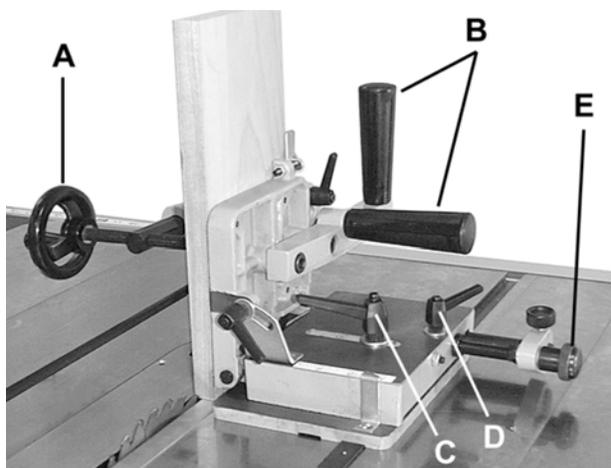

Figure 8
1. Use the handwheel (A) to tighten your workpiece against the fence. See Figure 8.
2. Use the two large handles (B) to securely move the workpiece through the saw blade.
5. For fine adjustments moving the fence toward or away from the saw blade, loosen both lock levers (C & D). Move the fence away from the saw blade and tighten lock lever (D) only. Move the fence into position with knob (E) and then tighten lock lever (C).